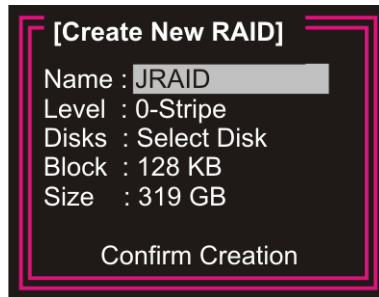

Figure D-4: Create RAID Name
Step 2: The **Create New RAID** window opens. The **Name** item is highlighted (**Figure D-4**). Enter a name made up of one to 16 characters for the RAID volume to be created, then press **ENTER**.